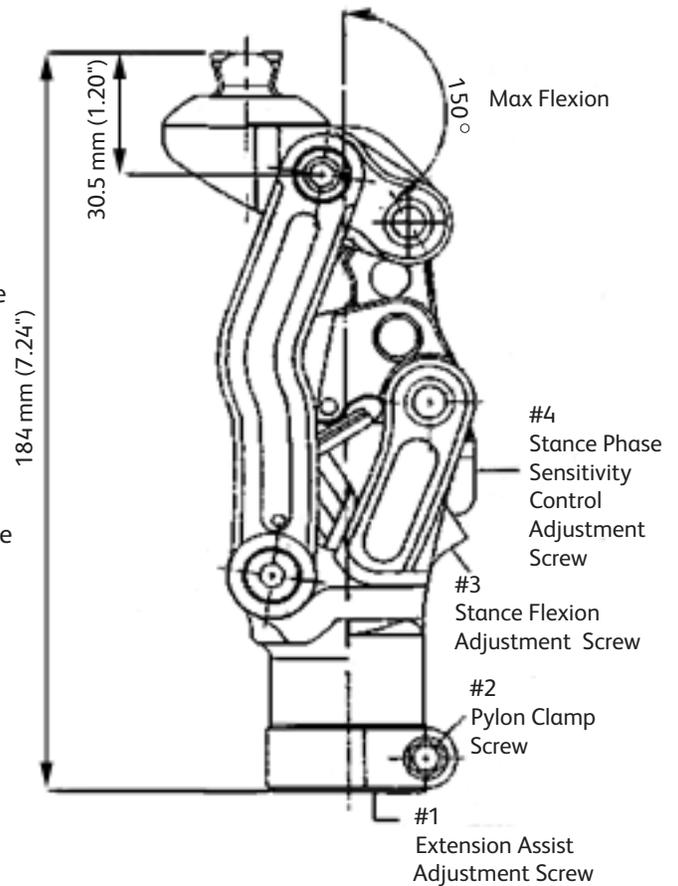

Figure 1
- Locate the Extension Assist Adjustment screw, #1 in Figure 1, on the anterior side of the knee.
- Locate the Stance Flexion Adjustment screws, #3 in Figure 1, on the posterior of the knee.
- Locate the Stance Phase Sensitivity Control Adjustment screw, #4 in Figure 1, on the posterior of the knee.